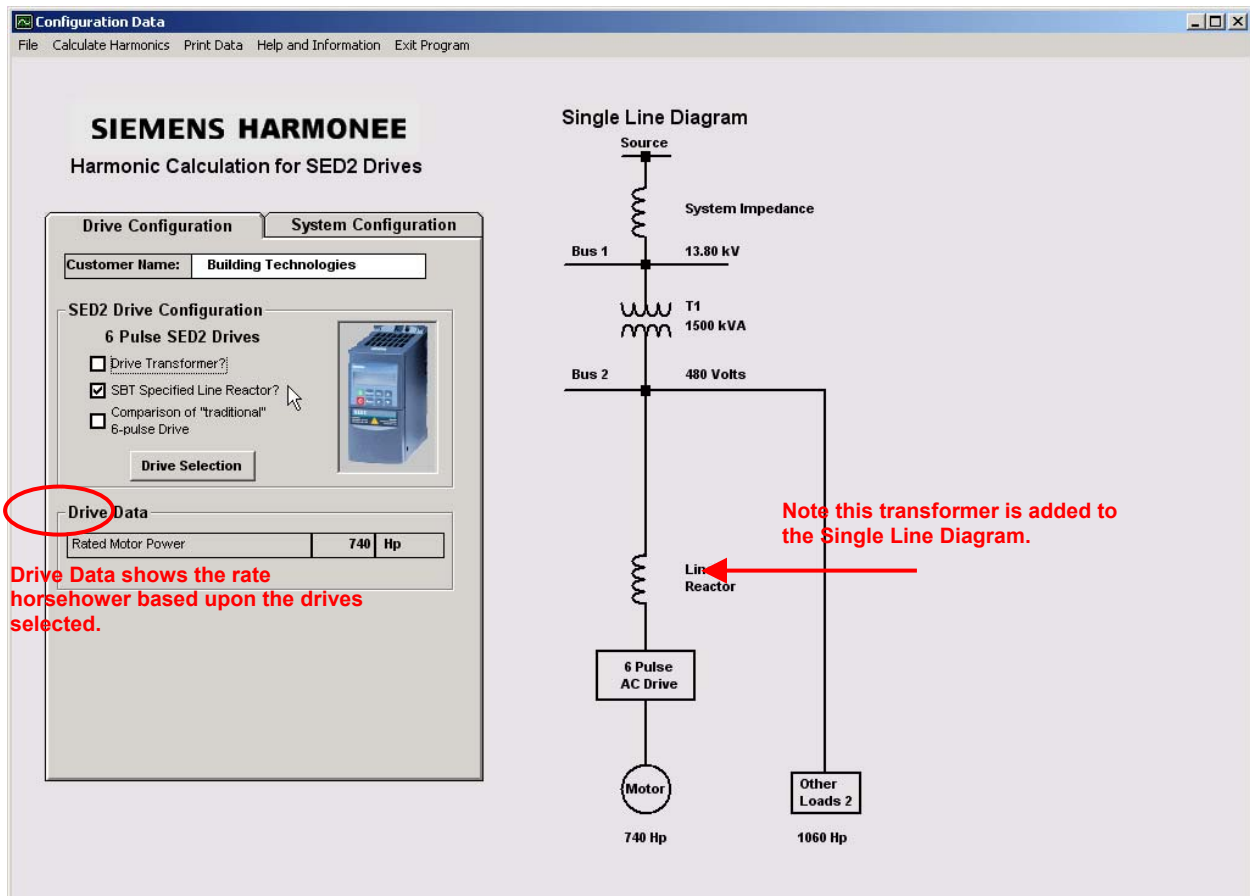

Figure 8 -- SBT Specified Line Reactor Option
10. The **SBT Specified Line Reactor** check box will insert an SBT specified line reactor into the equation and onto the system diagram, but will require no additional information beyond that. (See Figure 8)